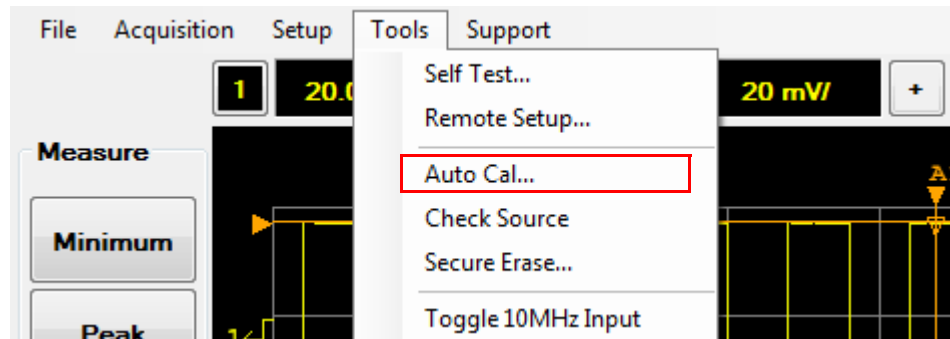

Figure 2-93 Auto Cal... selection in the Tools menu
- 1 Select **Tools > Auto Cal...** on the toolbar as shown in Figure 2-93.